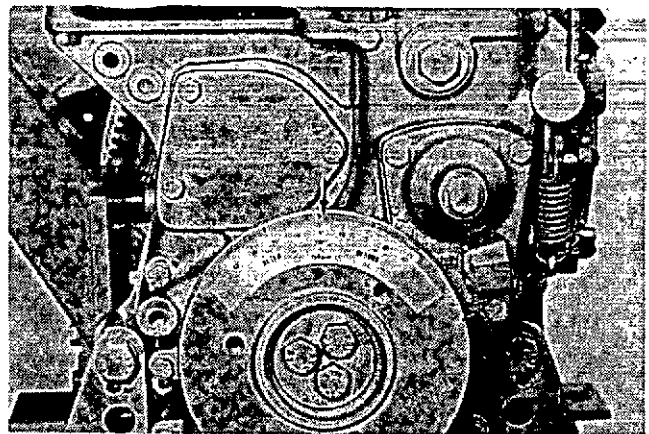

Figure 4
- j. Without removing the backing from the decal, position it equally between the two reference marks and mark the pulley over the TDC/0° line on the decal. This will split the difference between the two reference marks, which is Top Dead Center (TDC). See Figure 4.